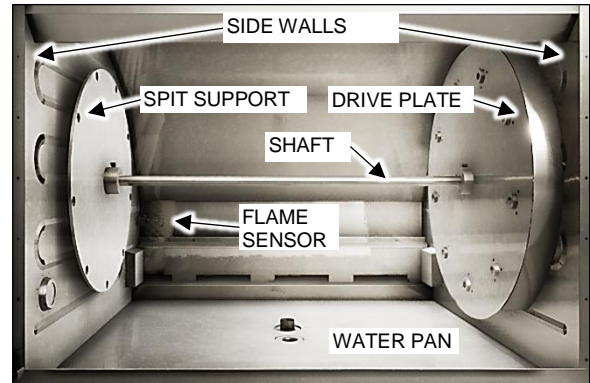

Figure 5-2
7. Spray a Hardt-approved oven cleaner on all major surfaces (drive plate, spit support, shaft, water pan, and side walls as shown in Figure 5-2); let it settle for 15 minutes.